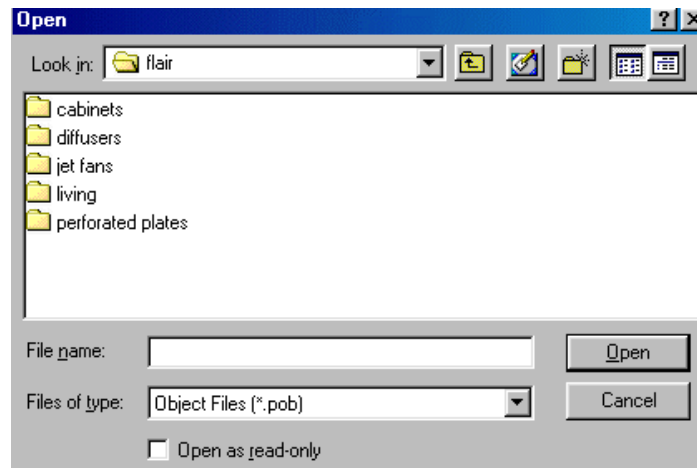

Figure 3.29 The Import Object dialog box
- Click 'Object' pull-down menu 'Object' on the 'Object Management'. The selection of 'New' and 'Import', will bring you straight to the prepared HVAC data base as shown in figure 3.29